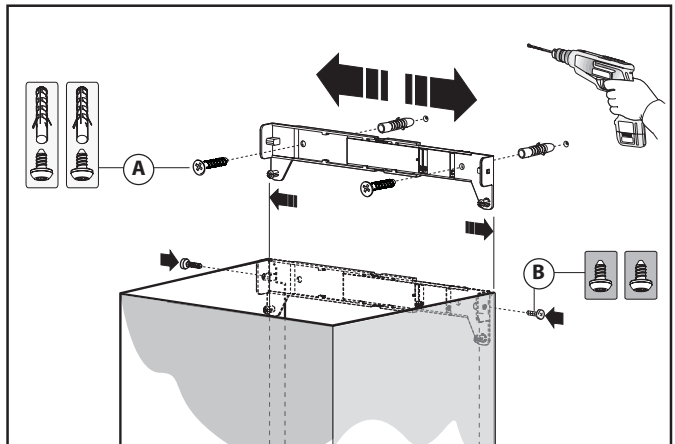

Fig.9
- Adjust the width of the support bracket of the top connector (Fig.9).